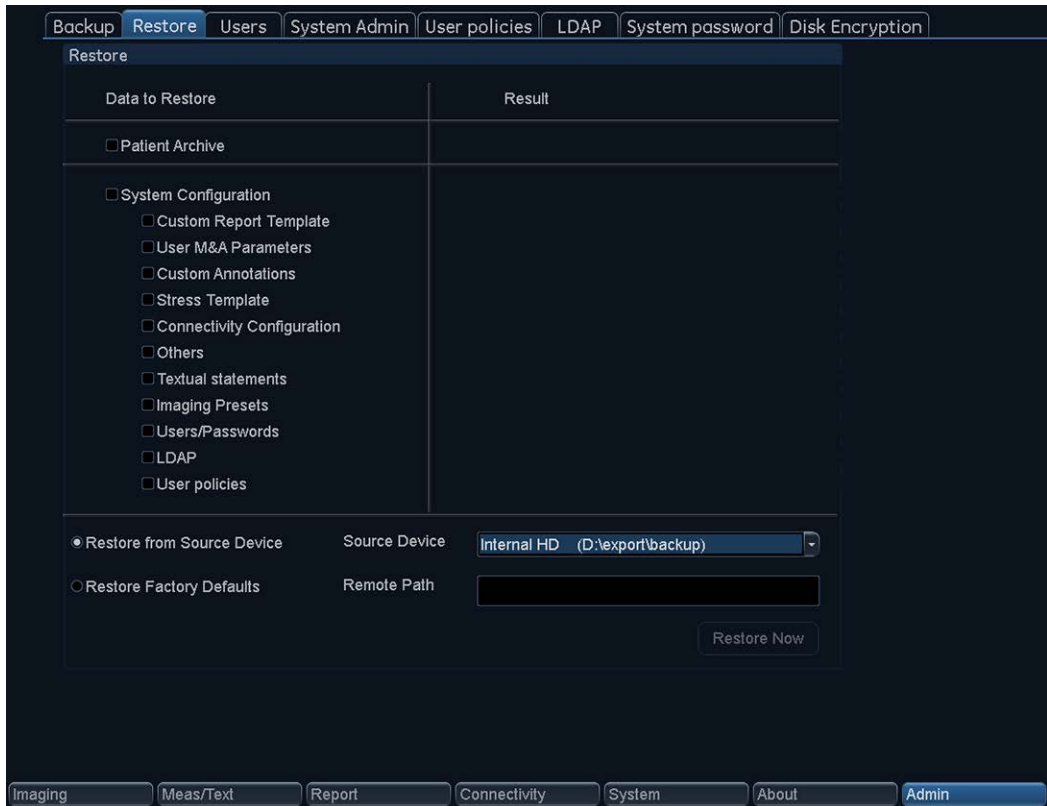

Figure 10-40. The Restore sheet
- One or several **system configuration items** to restore parts of the system settings and user presets (see Figure 10-40).